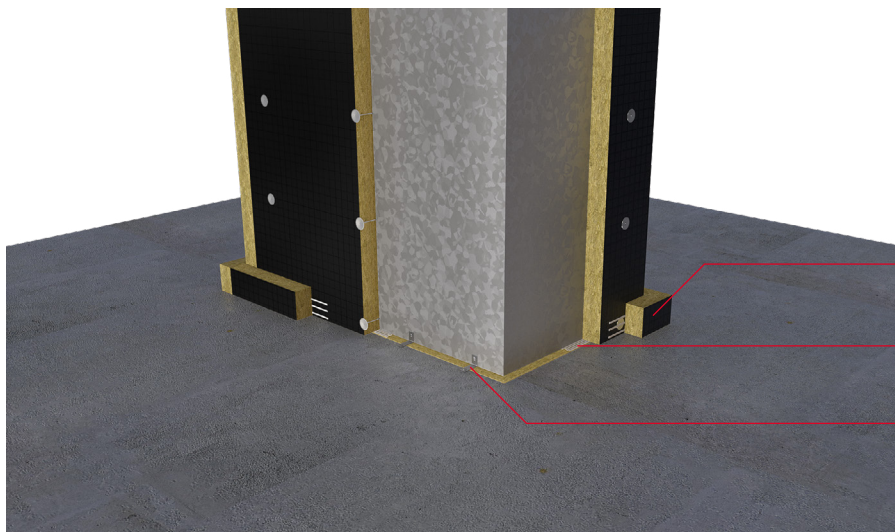

Figure 11a
1. Maintain a 30mm gap between the ductwork and floor structure. Fill the gap between the duct and the floor structure with a ROCKWOOL Slab (e.g. ROCKWOOL RWA45), as shown in Figure 11a. The flexible slab can be sealed within the void using FirePro Glue.
3. Apply a DuctRock collar to the perimeter of the aperture and on both sides as shown in Figure 11a. The collars can be fixed using FirePro Glue and temporarily held in place with nails until the glue cures.